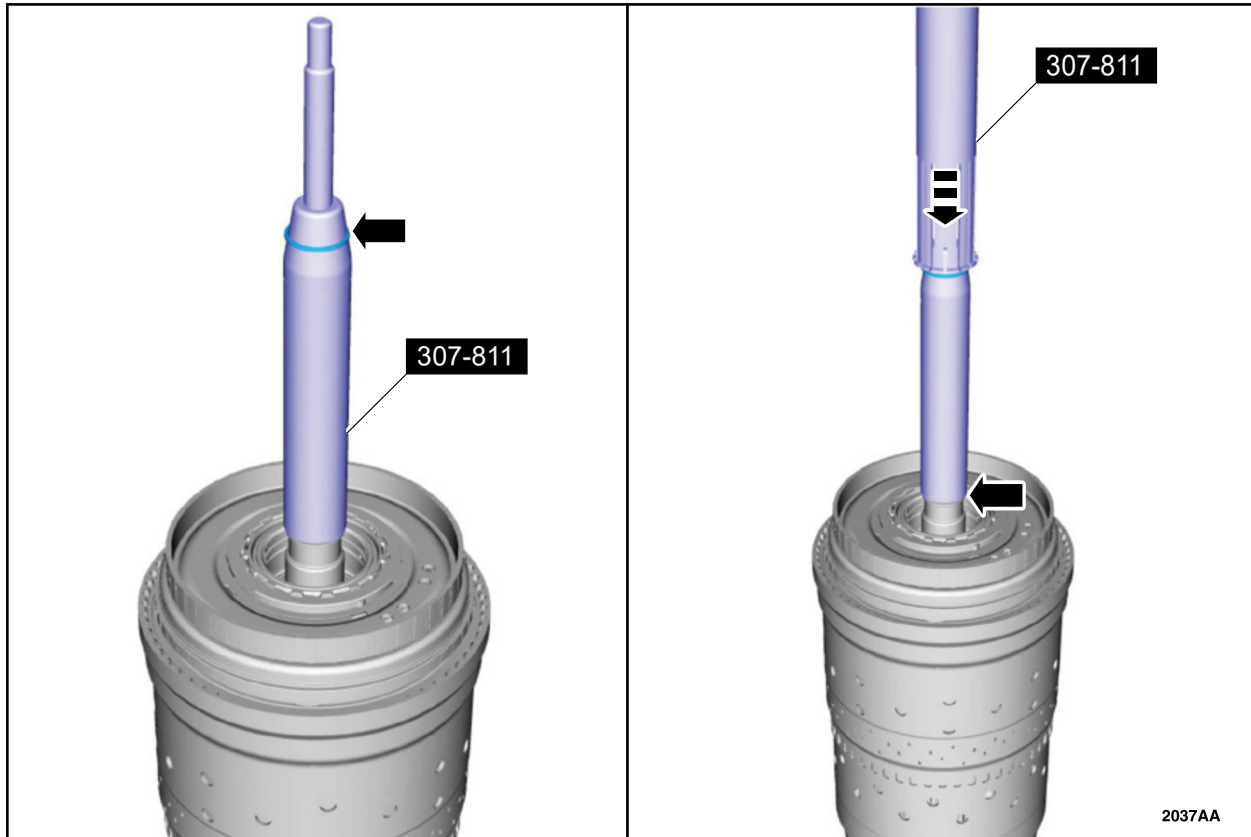

FIGURE 19
22. Install a new Teflon® seal on special tool 307-811. Using the top half of special tool 307-811, slide the Teflon® seal into the groove. Remove special tool 307-811 and repeat the steps for the other damaged front support assembly seal. See Figure 19.